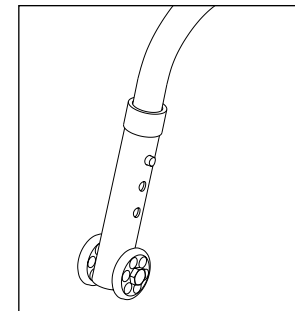

Figure 32
3. Adjusting Anti-Tip Tube Wheel (Fig. 32)